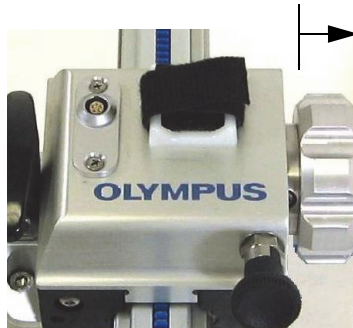

Figure 3-2 The increment knob in the free-running position
4. Pull the increment knob for the Y-axis into the free-running position (see Figure 3-2 on page 60).